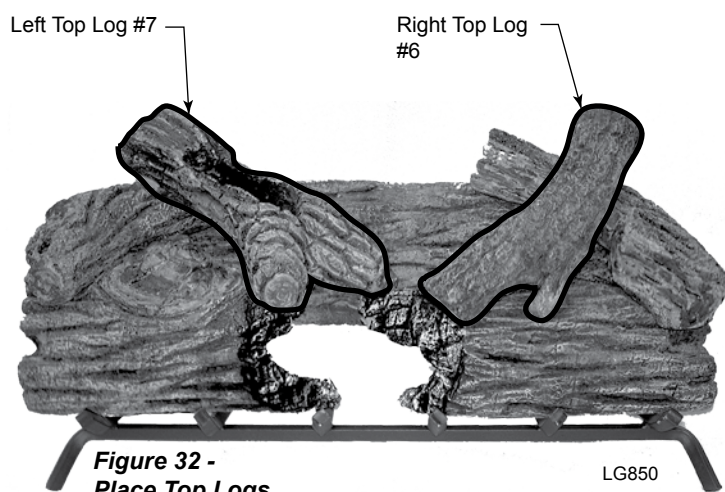

Figure 32 - Place Top Logs
7. Place right top log #6 as shown. *Figure 32*
8. Place left top log #7 as shown. *Figure 32*